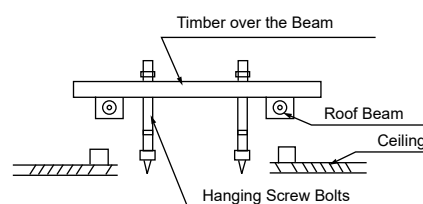
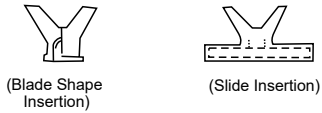

Fig.5-3
Fig.5-4
- Please Refer to Fig. 5-3 and Fig. 5-4 for the hanging screw bolts distance.